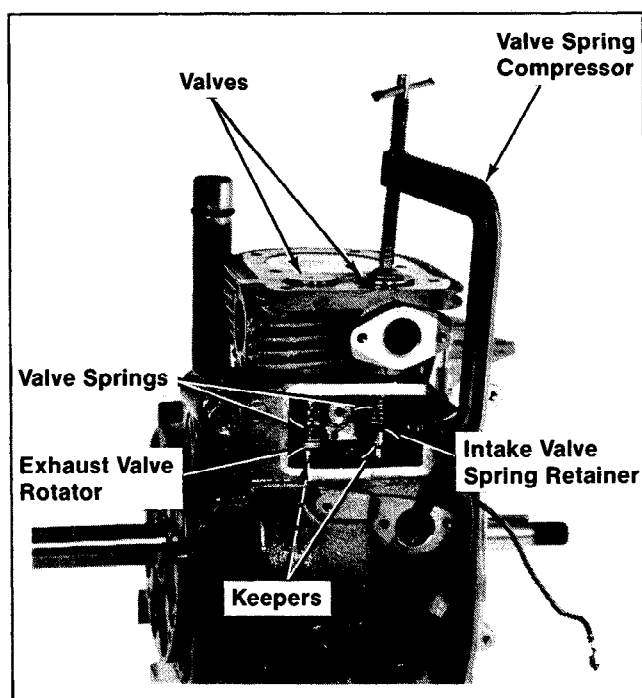

Figure 10-4. Removing Valves.
2. Compress the valve springs with a valve spring compressor and remove the keepers. Refer to Figure 10-4.